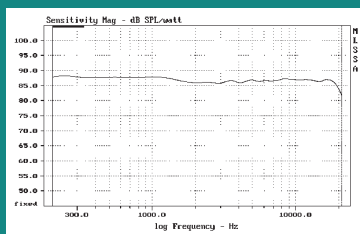

FIGURE 8: PSB Stratus average horizontal response (±30°).
The average response over a 60° horizontal window ($\pm 30^\circ$) in the forward direction is shown in *Fig. 8*. This average response is one of the smoothest I have measured. Between 200Hz and 18kHz response is within ± 1.5 dB. This is excellent horizontal performance and suggests good direct field coverage in the primary listening area with only small changes in timbre with position. Image stability should be very good.
- Figure 2**—While the smoothness was expected, I didn't hear the mild dip around 3kHz. Normally I would, having complained often about recessed midrange. I think Fig. 8 explains this:
- Figure 8**—Joe said that "average horizontal response over a 60° angle is a good indicator of tonal quality." Well, one look at Fig. 8 certainly agrees with the superb, uncolored tonal realism I heard.
- Figure 6**—The excellent decay above 4kHz, coupled with the outstanding smoothness in Fig. 8, explains the pristine violin tone and ultra-clear transient reproduction I heard. I was not aware of coloration due to the "ridges" Joe mentioned at 2.4 and 3.75kHz. I think that's because these ridges don't appear to start their slow decay until about 30dB below the initial response (which decays that first 30dB very quickly, in about 1 ms).